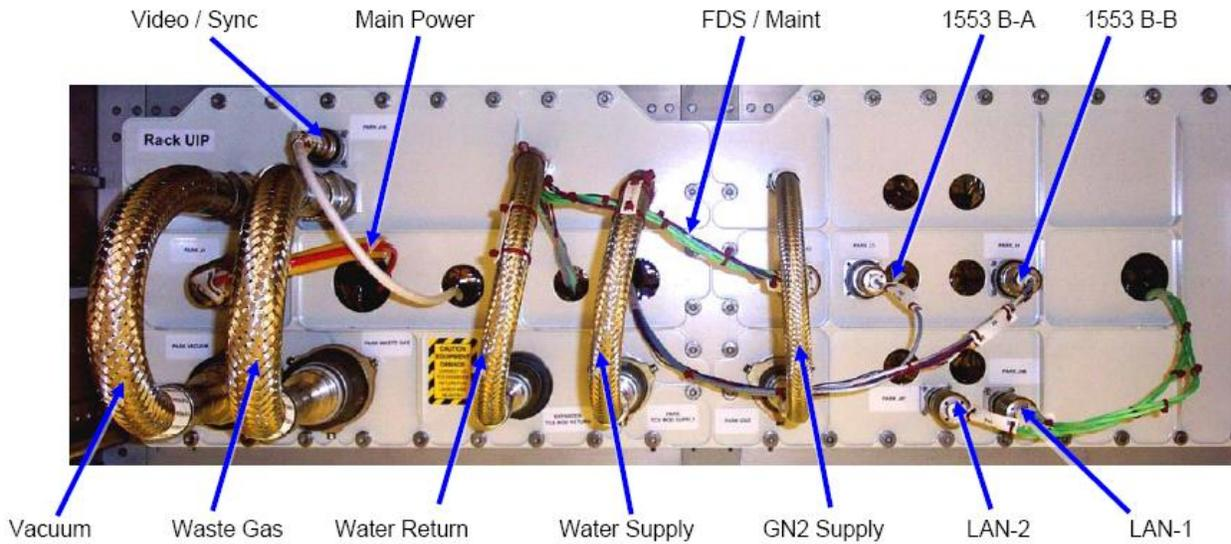

Figure 3-2 EDR Umbilicals Launch Configuration.
Refer to Figure 3-2.
- Remove protective cap from COL UIP jack, temporary stow if untethered. Refer to Figure 3-2.